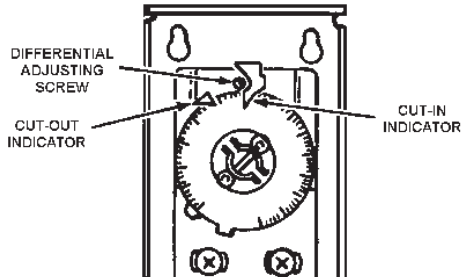

FIGURE 2. AUTO RESET HIGH LIMIT
The high limit is a safety device wired in series with the ignition system. Set the high limit control to approximately 100°F above the maximum designed system temperature. If the boiler outlet water temperature should exceed the high limit setting, the main gas control valve will close but the circulating pump will continue to operate. Maximum adjustable setting is 115°C (239°F) cut-out with a 30°C (86°F) to 250°C (482°F) adjustable differential, see Figure 2.
1. Reset High Limit Temperature Control to lowest setting. (See Figure 2 on Page 7).